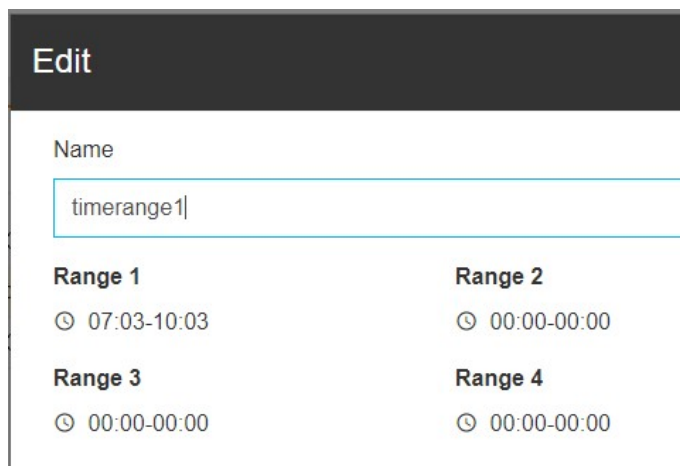

Figure 13-47 Editing the time range
4. To edit the time range, click on the right side of the time range. The **Edit** page is displayed. After modifying the name or range, click **SAVE**, as shown in Figure 13-47.